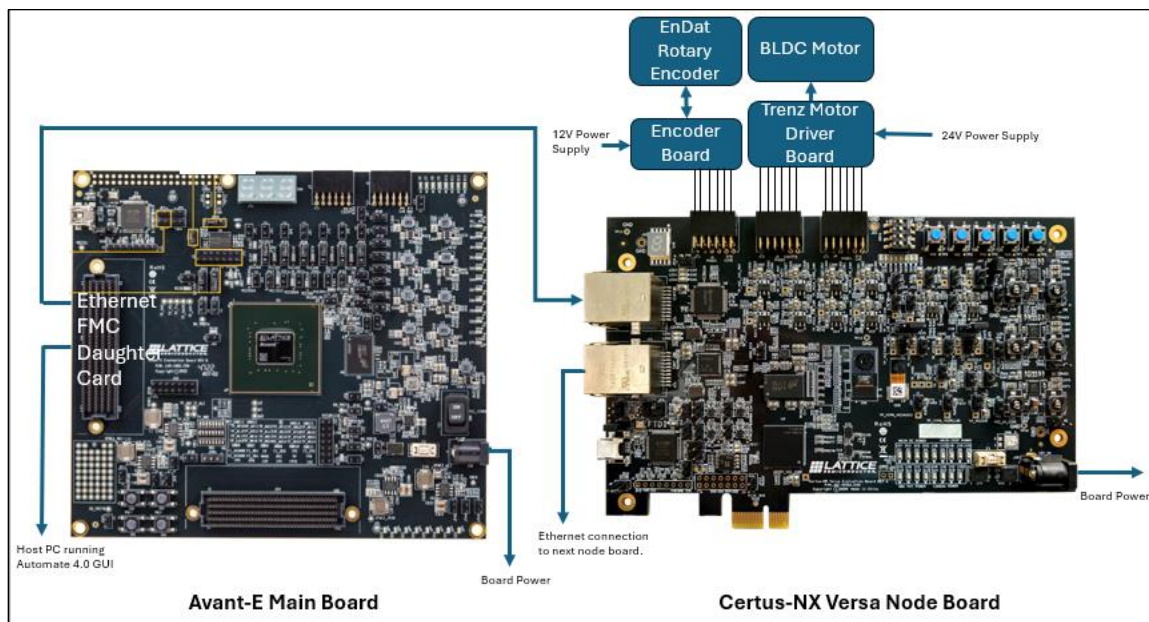

Figure 4.1. System Setup with Host PC (Example with One Node)
The details of hardware connections are illustrated in Figure 4.1.
1. Hardware must be connected properly as shown in Figure 4.1.